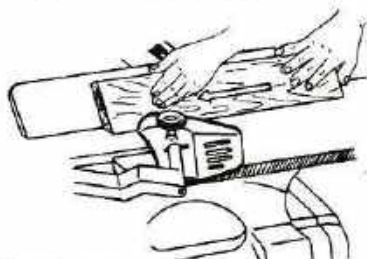

Fig.666 PLANING CHAMFERS AND BEVELS
2. Adjust the fence to fit the angle of the sliding T bevel Fig.666. The fence can be tilted out backwards or forwards.